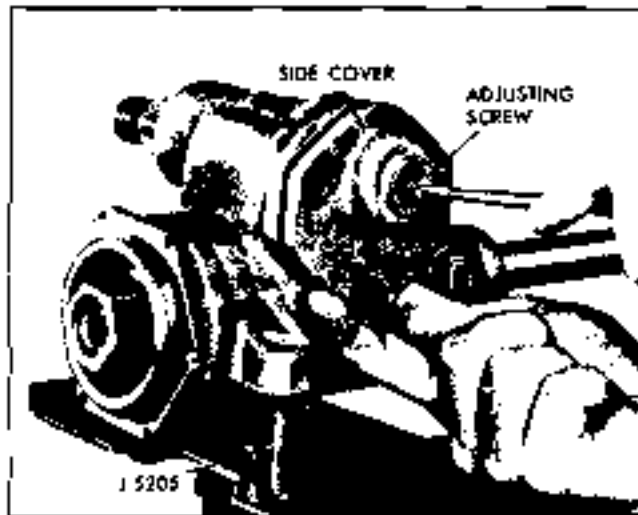

Fig. 9-49 Removing Side Cover
3. Remove side cover and gasket by turning adjusting screw clockwise through cover (Fig. 9-49).